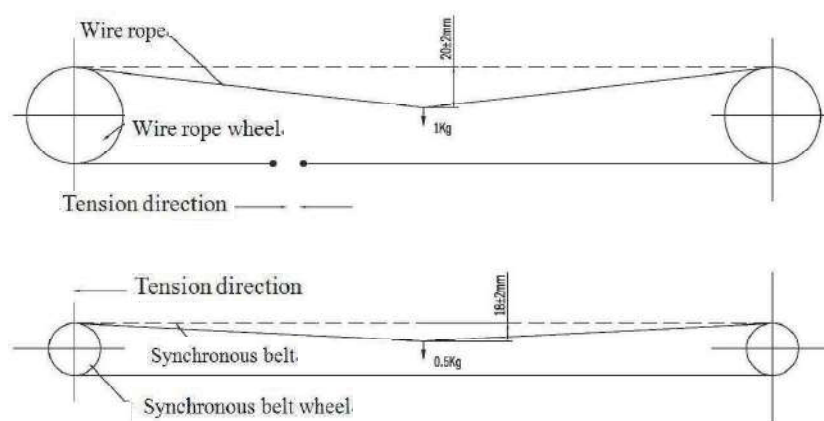

Figure 7-1
- 7.6 Check the wire rope and the tension of the timing belt during each maintenance (refer to Figure 7-1).